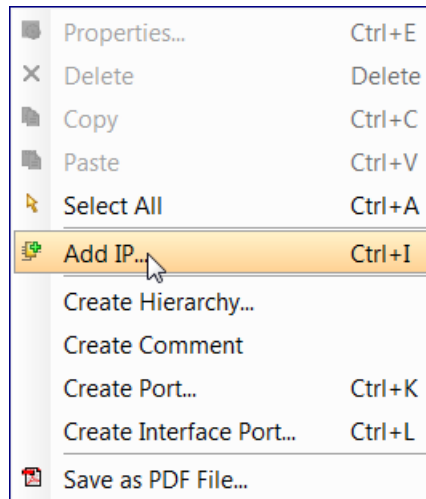

Figure 5: Add IP Option
1. In the Vivado IP integrator canvas, right-click, and select **Add IP** (Figure 5).